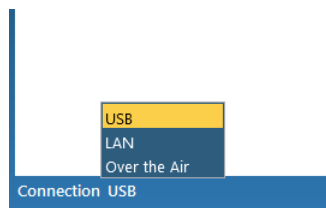

Figure 5: Selecting the USB connection for programming
2. Launch TRBOnet Swift CPS on your computer. In the main window, select **USB** as the programming interface (Figure 5, page 16).
1. Launch TRBOnet Swift CPS. In the main window's bottom bar, select **USB** as an interface for device programming (Figure 5). Connect the programming cable to a USB port of your computer.